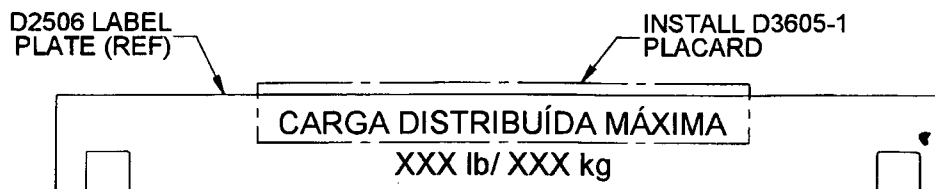

FIGURE 2: INSTALLATION OF D3605-1 PLACARD
5. Install D3605-1 Label per Figure 2 using a 3M PA-1 Plastic Applicator (or equivalent) to work out blisters as required.